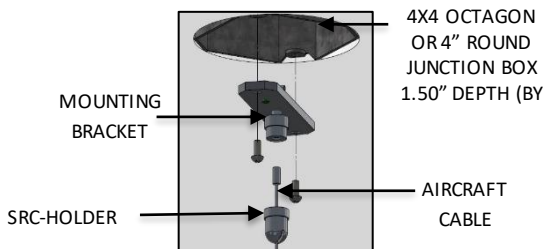

FIG. 13 – MOUNTING BRACKET ASSEMBLY
10. Feed the remaining AIRCRAFT CABLE through the SRC-HOLDER. Then assemble the SRC-HOLDER with AIRCRAFT CABLE to the SRC-BASE on the MOUNTING BRACKET ASSEMBLY. Secure the MOUNTING BRACKET ASSEMBLY to the JUNCTION BOX (by others) as shown below in FIG. 13.